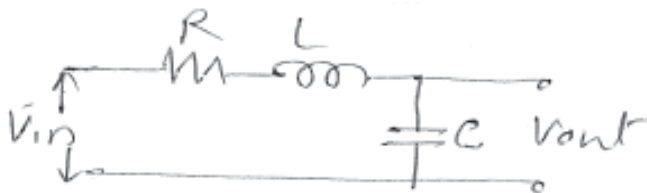

Fig. 1
- c) Find out transfer function of given R-L-C series circuit shown in fig.1. **8**